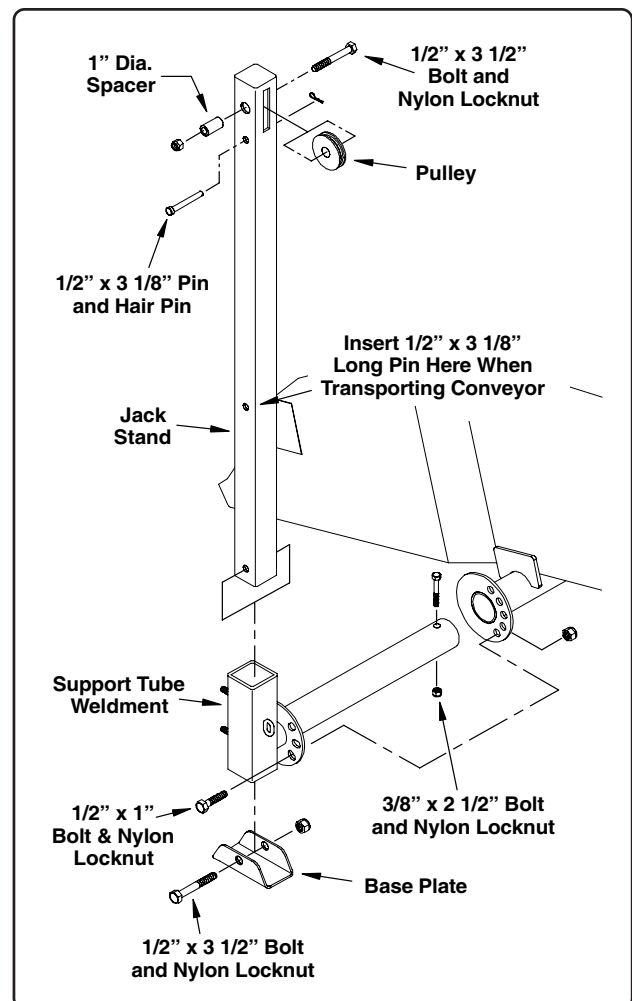

Fig. 27
1. Locate the jack stand and its components from the box of parts. Insert the support tube weldment into the mount tube on the side of the inlet housing as shown in Fig. 27.
2. With the slotted end facing up, install the jack stand into the square tube on the support tube weldment (See Fig. 27).